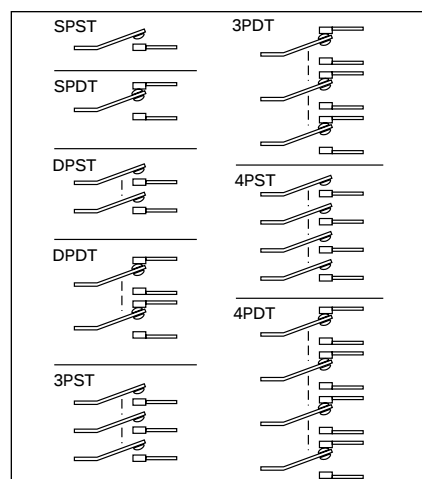

Figure 2-1. Circuit Arrangements
① See Figure 2-1 Circuit Arrangements on Page 2-4.
① See Figure 2-1 Circuit Arrangements below.
② For pricing information, refer to the Cutler-Hammer Control & Automation Products Price & Availability Digest.
③ See Figure 2-1 Circuit Arrangements below.
④ Rated 1/4 hp at 125V, 1/2 hp at 250V.